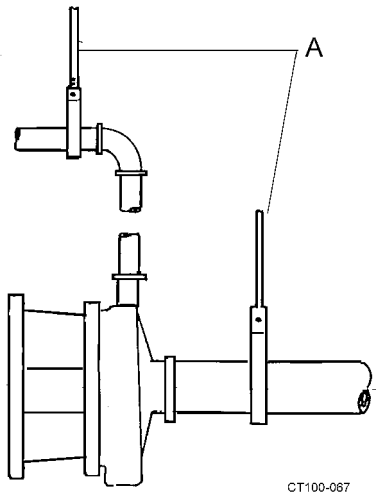
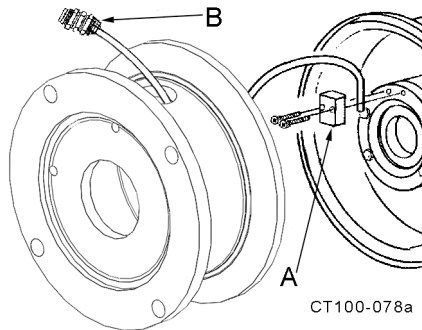

**Figure 13 - Recommended Discharge Positions**
Figure 17 - Motor nameplate
- The pump casing may be rotated with the discharge connection pointing in any direction. The best pump performance will be with the outlet up, to the left, or positions in between; these positions ensure a flooded casing and prevent problems caused by air in the system (Figure 13).
- Check the pump rotation following the electrical installation. The correct rotation is counterclockwise when facing the pump inlet connection (Figure 13 and Figure 17); clockwise when viewing the fan on the motor.